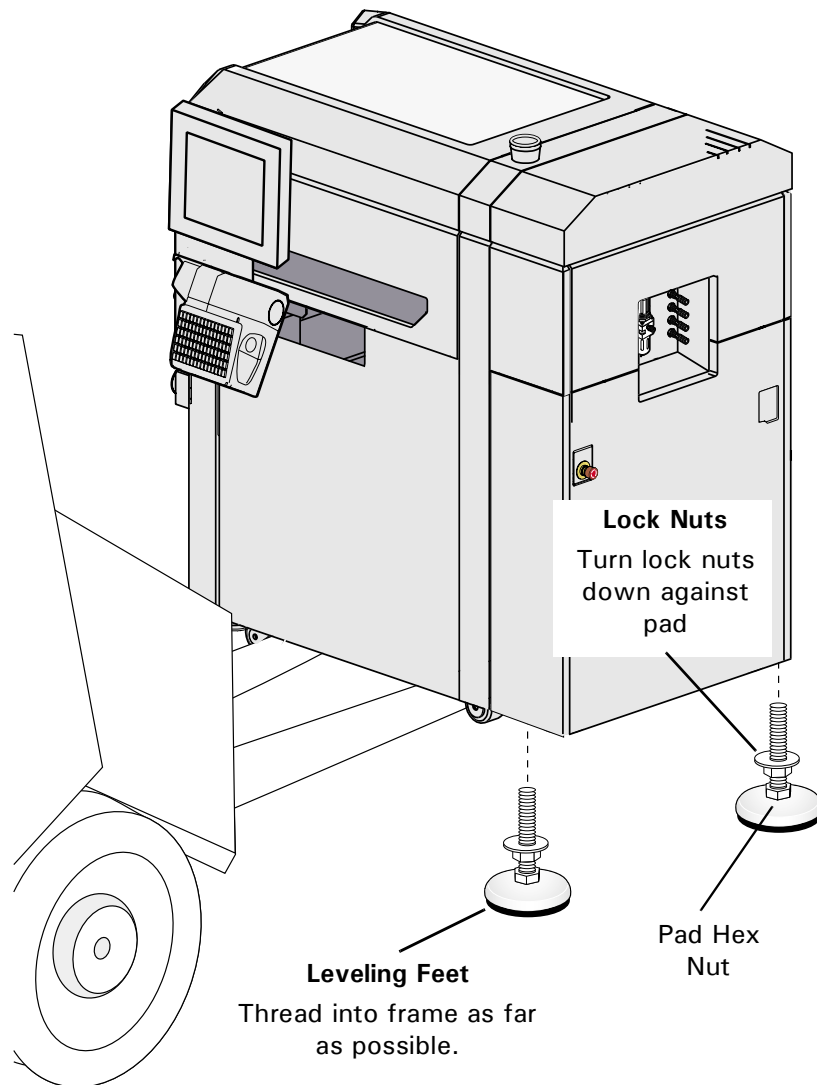

Figure 3-3
5. Install leveling feet at each of the four locations where the shock mount bolts were removed. See Figure 3-3